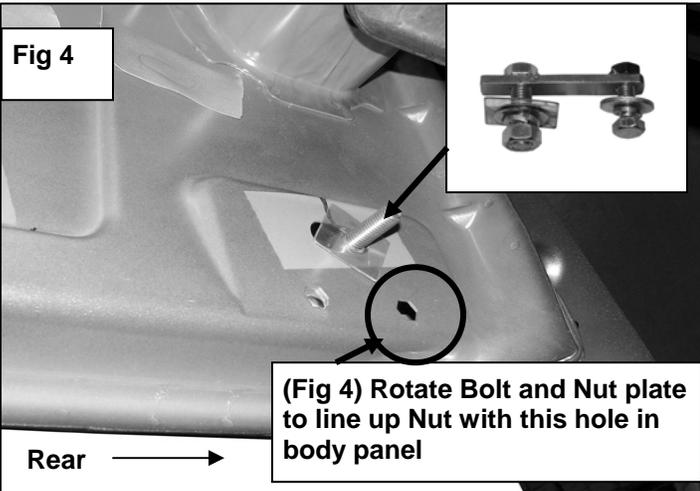

Fig 4
- Next remove the tape covering the factory oval hole in the inner body panel. Thread a Plastic Retainer onto the threaded end of a Bolt and Nut Plate; Insert the Bolt and Nut Plate into the factory hole. **(Fig 4)**. Once the Bolt and Nut Plate is inserted, hold the Bolt end with one hand and tighten the Plastic Retainer with your other hand, **(NOTE:** Tighten the Plastic Retainer until it reaches the side panel.
**(Fig 4) Rotate Bolt and Nut plate